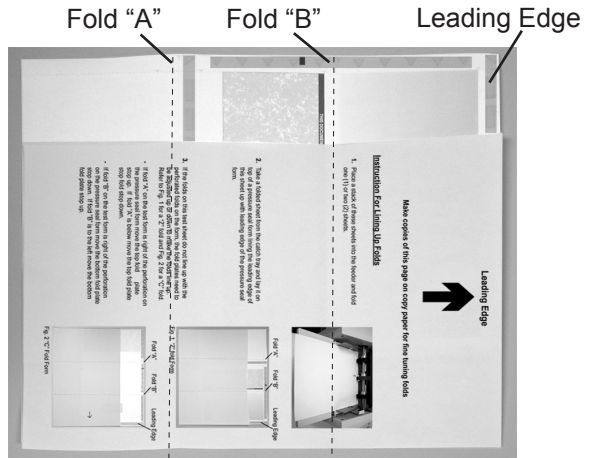
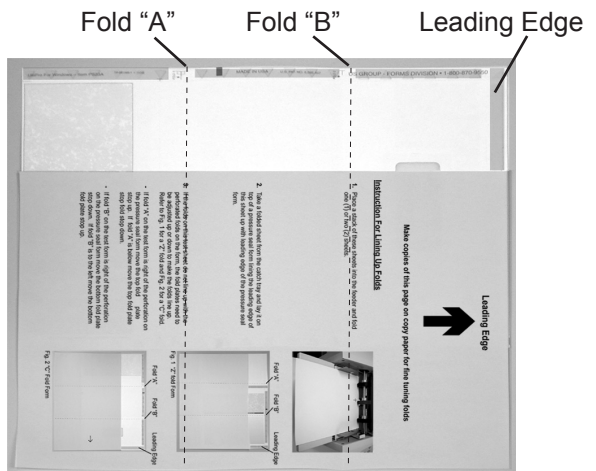

Fig. 16 "Z" fold Form
Fig. 17 "C" Fold Form
3. If the folds on this test sheet do not line up with the perforated folds on the form, the fold plates need to be adjusted up or down to make the folds line up. Refer to Fig. 16 for a "Z" fold and Fig. 17 for a "C" fold.